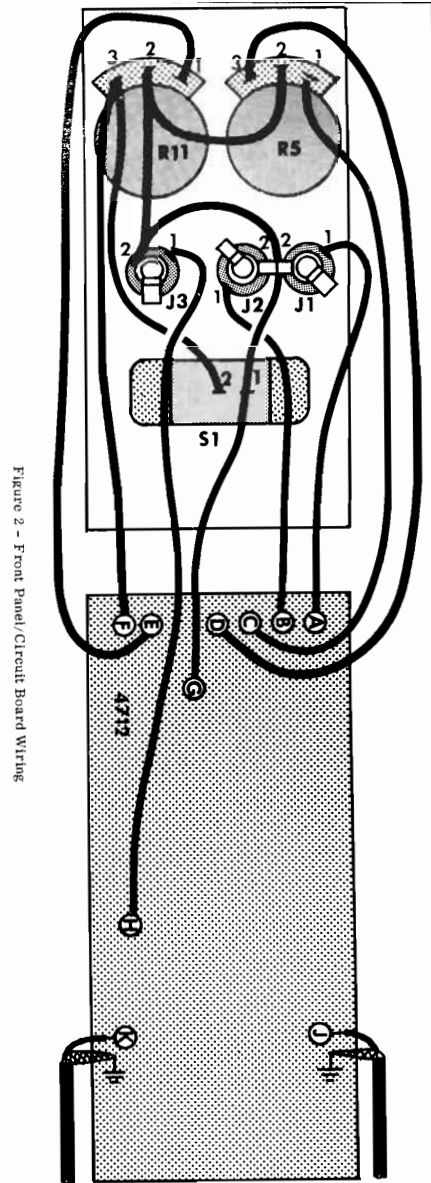

Figure 2 - Front Panel/Circuit Board Wiring
Note that in a later step the ground lugs (lug #2) of miniature phone jacks J1 and J2 will be soldered together. Make sure that these lugs are adjacent to one another before tightening the nuts on these jacks. (see figure 2 foldout on page 5)
- () Mount the miniature phone jack J1 using the nut provided. Orient as illustrated in figure 2.
- () Using two 4-40 X 1/4 inch machine screws and two 4-40 nuts mount the slide switch S-1 in the position shown in figure 2.
- () Mount 500K ohm potentiometer R5 in the location shown in figure 2. Use two 3/8 inch nuts, one behind the front panel as a spacer and the second on the front side of the panel to secure the potentiometer. Adjust the rear nut so that none of the threaded shaft of the control is exposed when the front nut is tightened down. This will allow the control knob, which will be mounted in a later step to seat as closely as possible to the front panel. Orient as illustrated.